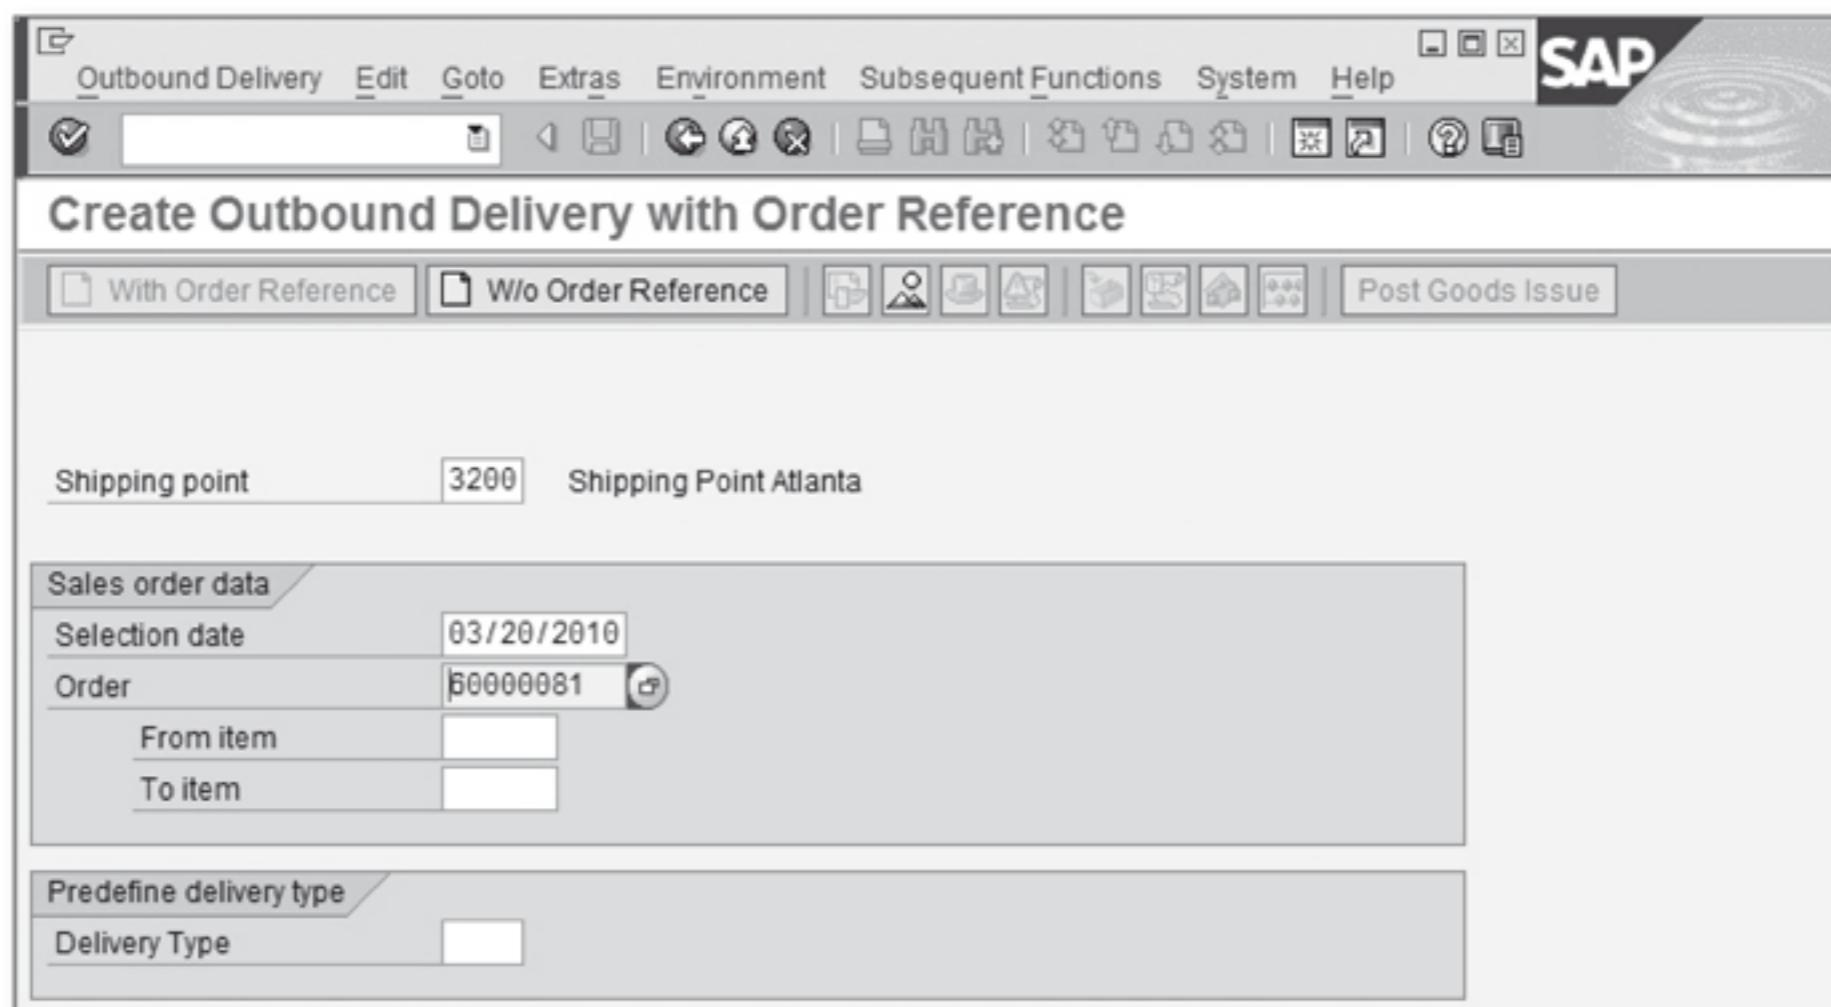

Figure 3.46 Create Returns Delivery Initial Screen
1. On the Create Outbound Delivery with Order Reference initial screen, specify the shipping point number, shipping date, and sales order number you want to process delivery for, and then press **Enter** (see Figure 3.46).